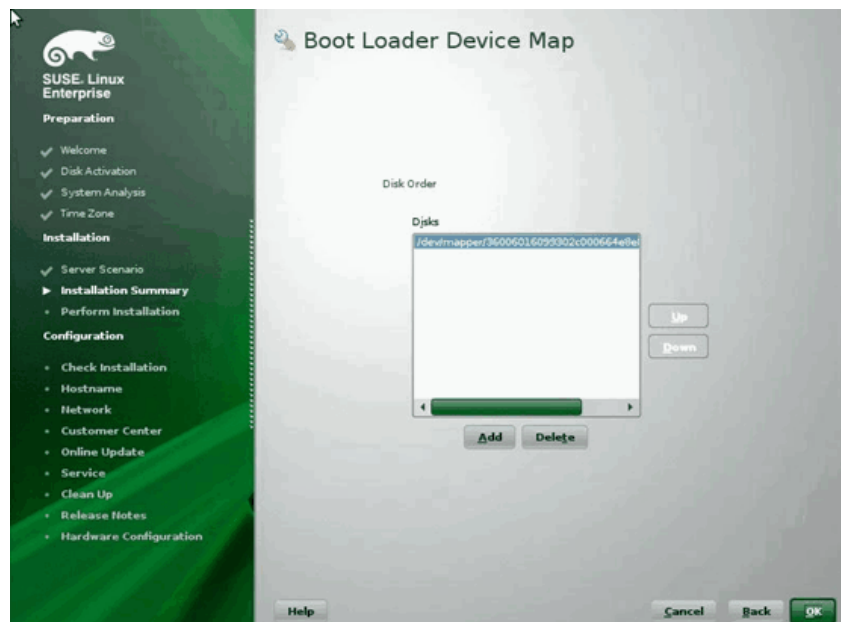

Figure 13-20. Boot Loader Device Map
13. Click the **Boot Loader Installation** tab, and then select **Boot Loader Installation Details**. Make sure you have one boot loader entry here; delete all redundant entries (Figure 13-20).